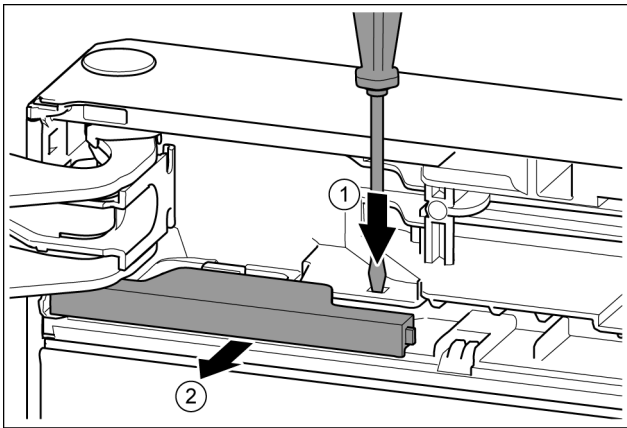

Fig. 12
- ▶ Press the tab with the slotted screwdriver. Fig. 12 (1)
- ▶ Pull cover out of the catch mechanism. Fig. 12 (2)